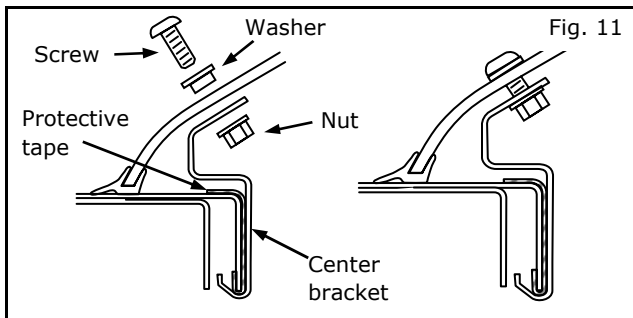

Fig. 11
14) Repeat step 13 for center bracket, Fig.11.
Leaving air gap between brackets and flange can cause wind noise issues. Confirm there is no gap between brackets and flange. If there is any gap, adjust deflector and side brackets forward to eliminate gap. (Fig.11)